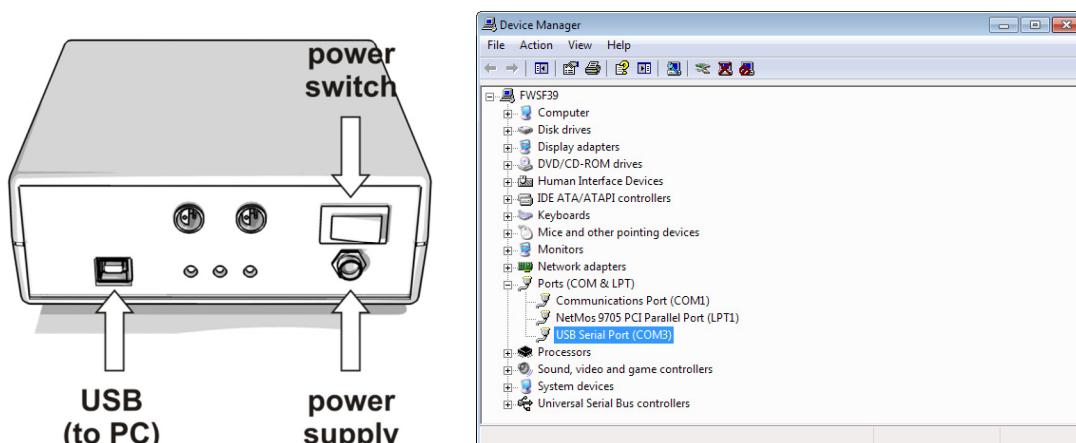

Fig. 1: Basic connection and setup of the *ClockBox*
6. Check the virtual COM-port in the device manager of the PC (Fig. 1 right)